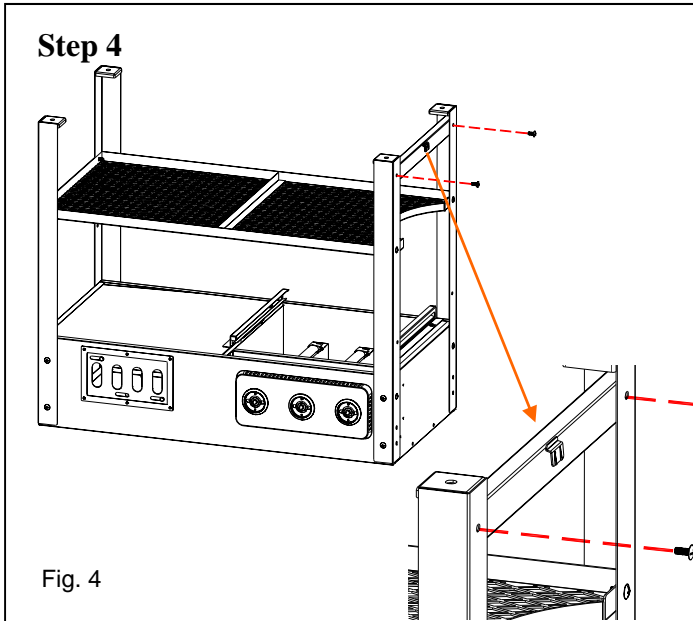

Fig. 4
Refer to Fig. 4 and attach the Support Brace to the **INSIDE** of the Left Side Front and Rear Legs using (1) M6x15 bolt at each end of the Brace